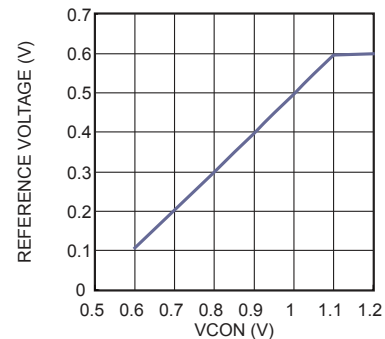

Figure 2: Reference Voltage Change with VCON
typically 10%. The detailed V_{Ref} curve is shown in Figure 2. Calculate V_{ref} with Equation (2):